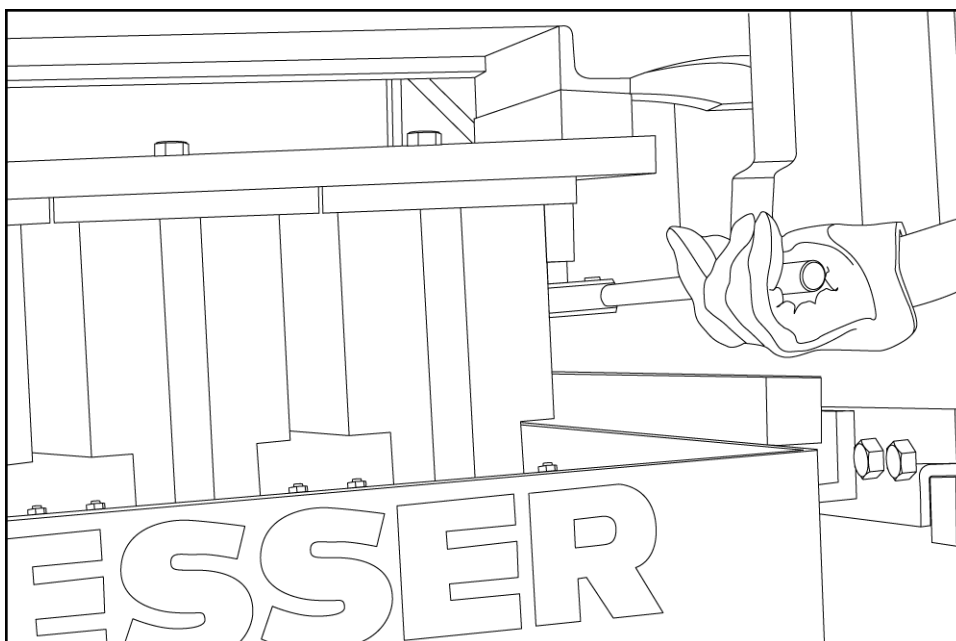

Figure 5.35 TIGHTENING THE HEAD BOLTS
5.7.18 Tighten the head bolts (figure 5.35).